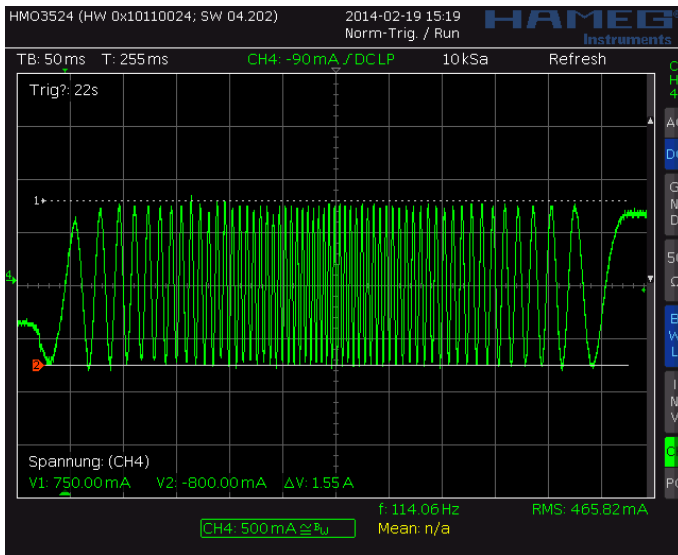
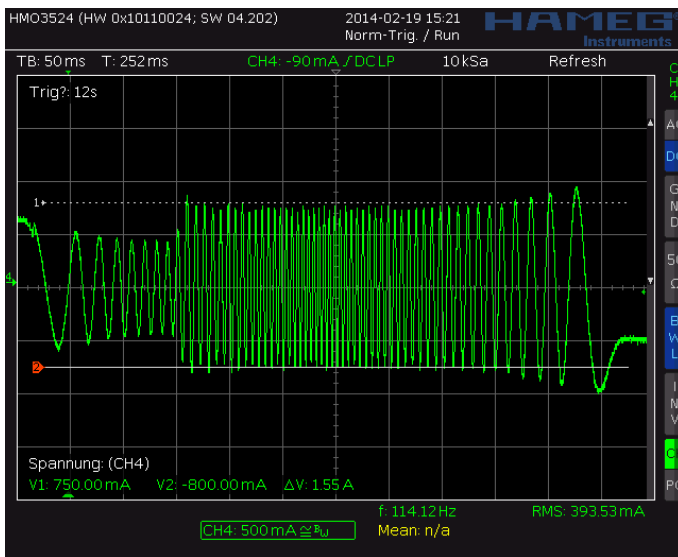
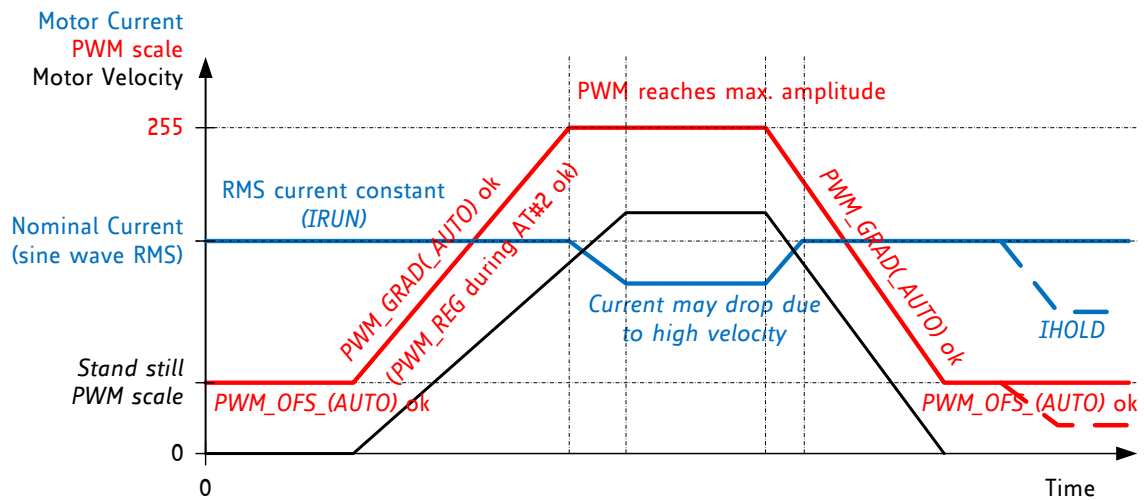

Figure 7.3 Scope shot: good setting for PWM_REG
Figure 7.4 Scope shot: too small setting for PWM_REG during AT#2
Figure 7.5 Successfully determined PWM_GRAD(AUTO) and PWM_OFS(AUTO)
In StealthChop voltage PWM mode, the autoscaling function ($pwm_autoscale = 1$, $pwm_autograd = 1$) regulates the motor current to the desired current setting. Automatic scaling is used as part of the automatic tuning process (AT), and for subsequent tracking of changes within the motor parameters. The driver measures the motor current during the chopper on time and uses a proportional regulator to regulate PWM_SCALE_AUTO in order match the motor current to the target current. PWM_REG is the proportionality coefficient for this regulator. Basically, the proportionality coefficient should be as small as possible in order to get a stable and soft regulation behavior, but it must be large enough to allow the driver to quickly react to changes caused by variation of the motor target current (e.g. change of $VREF$). During initial tuning step AT#2, PWM_REG also compensates for the change of motor velocity. Therefore, a high acceleration during AT#2 will require a higher setting of PWM_REG . With careful selection of homing velocity and acceleration, a minimum setting of the regulation gradient often is sufficient ($PWM_REG=1$). PWM_REG setting should be optimized for the fastest required acceleration and deceleration ramp (compare Figure 7.3 and Figure 7.4). The quality of the setting PWM_REG in phase AT#2 and the finished automatic tuning procedure (or non-automatic settings for PWM_OFS and PWM_GRAD) can be examined when monitoring motor current during an acceleration phase Figure 7.5.